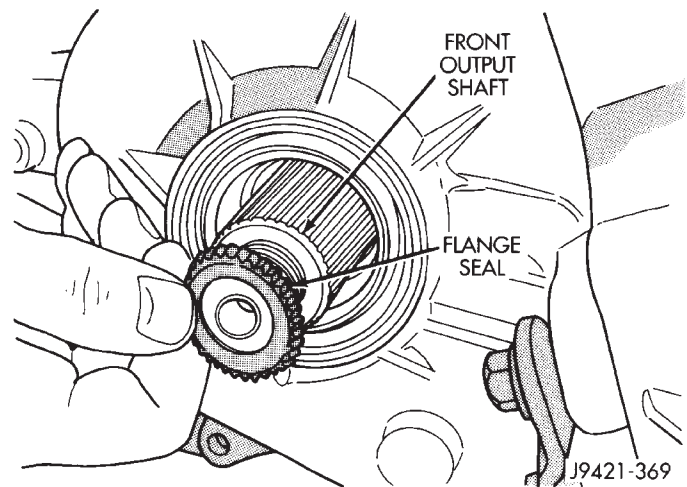

Fig. 72 Installing Seal On Front Shaft
(19) Apply 3 mm (1/8 in.) wide bead of Mopar gasket maker, silicone adhesive sealer, or Loctite 518 to mounting surface of extension housing
(20) Align and install extension on retainer. Then install and tighten extension bolts to 27-34 N m (20-25 ft. lbs.) torque.
(21) Install new seal on front output shaft (Fig 72).